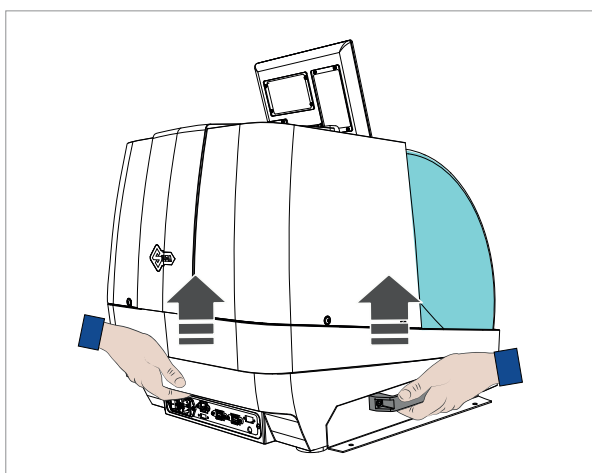
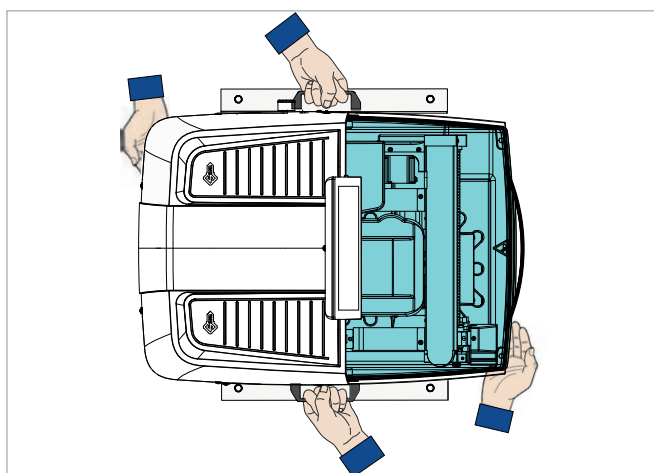

Fig. 15
Fig. 16
**ATTENTION:** lift the machine using the handles and by holding the rear and front of the base (Fig. 15 and Fig. 16).